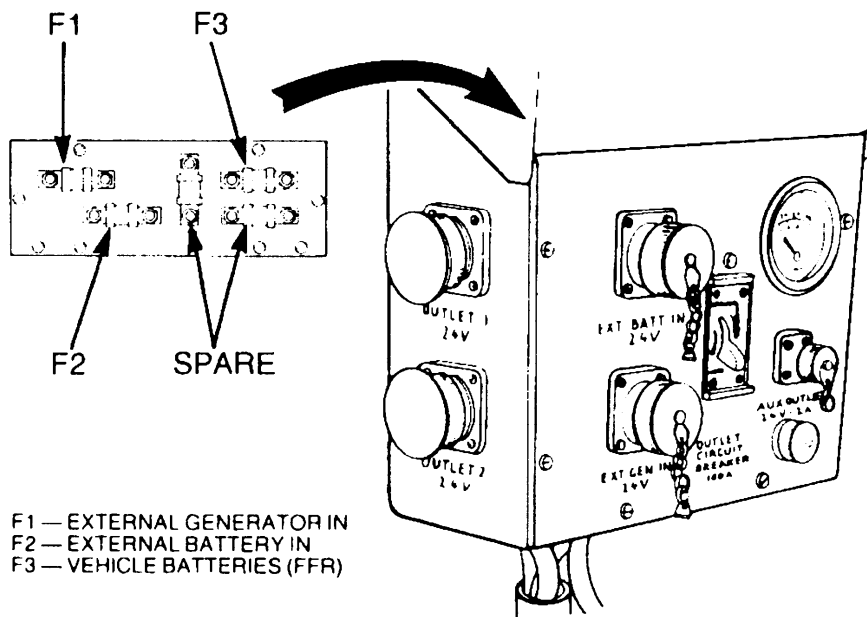

Figure 3 Power Distribution Box Hour Meter
12. The PDB (Figure 3) is installed in the rear compartment to enable auxiliary radio equipment and batteries to be connected. The PDB is provided with the following connections and controls: